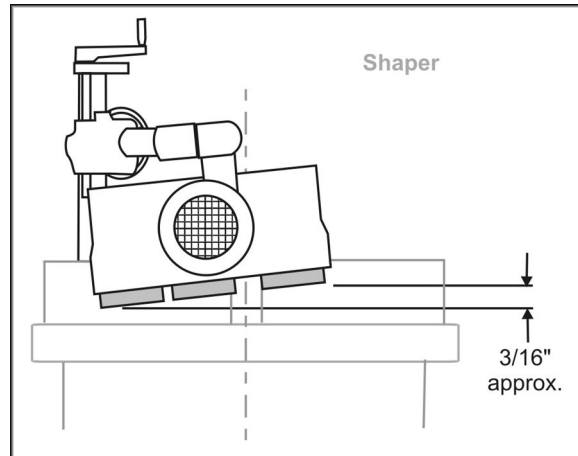

Figure 19
- When the Stock Feeder is in edgewise position, it must be inclined slightly towards the work table in the direction of feed, to ensure the workpiece remains forced down against the table. In other words, the outfeed roller should be approximately $3/16"$ closer to the work table than the infeed roller. See Figure 19.
- When the Stock Feeder is in the edgewise position, or angled for a beveled workpiece, the axis of the cutter should be between the infeed roller and the center roller (between the two center rollers on the 4-roller model). See Figure 19. The center roller should NOT be directed toward the opening between the fences, but should act directly against the fence.